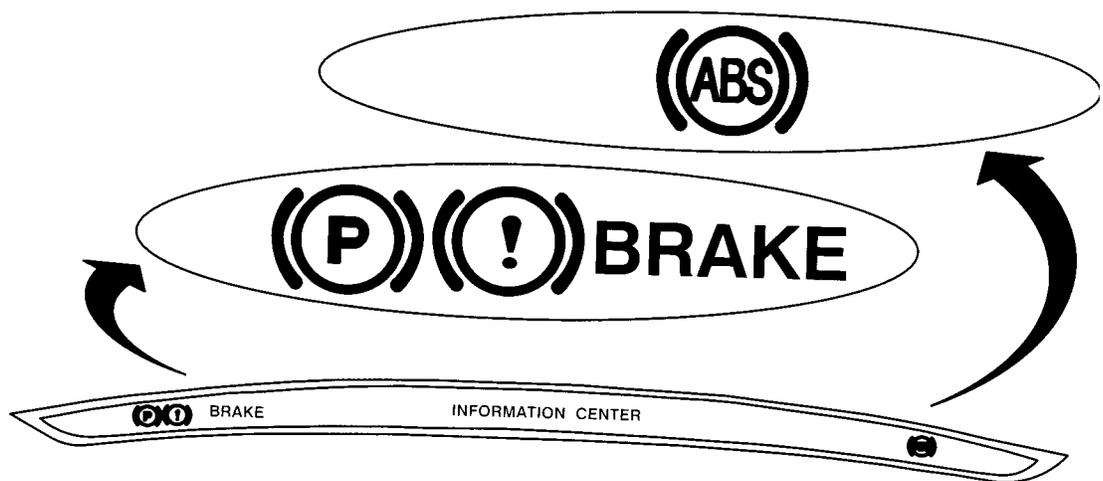

Figure 9-1 Both the BRAKE and the ABS indicator lamps should light when you turn on the ignition.
1. Start the engine and note the brake and ABS indicator lamps. When you turn the ignition switch on, the BRAKE lamp should light with the parking brake off. The ABS indicator lamp should light for a few seconds, then go out (Figure 9-1).